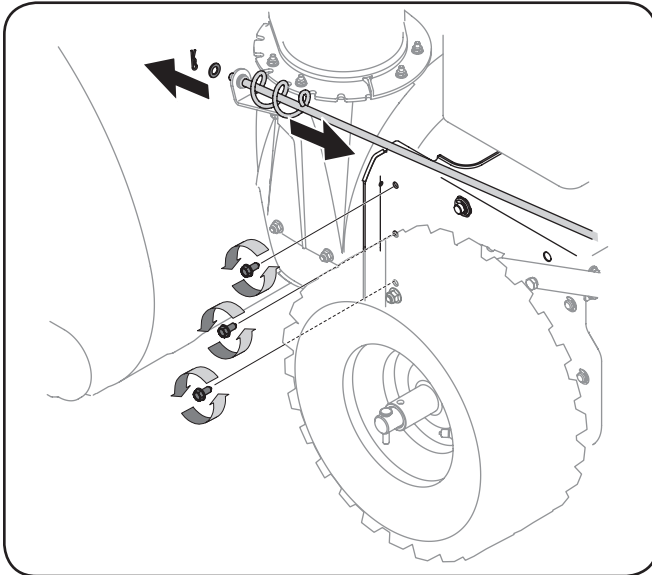

Figure 7-1
1. Disconnect the chute crank assembly at the discharge chute end by removing the hairpin clip and the flat washer. Refer to Figure 7-1.
4. From both sides of the frame assembly, use a 1/2" wrench to remove the three hex tap screws securing the transmission frame to the auger housing assembly. Refer to Figure 7-1. **NOTE:** Do not remove the lower hex flange lock nut on each side.